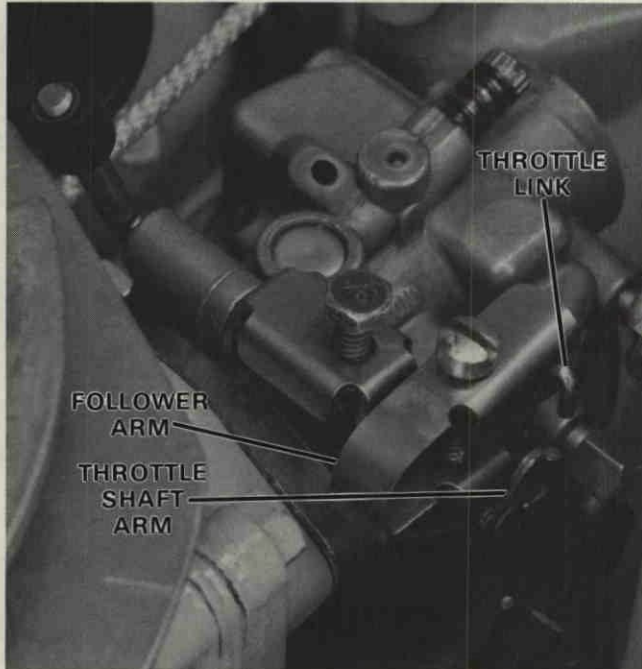

Figure 32. Installing Follower Arm to Cam Follower.
C. Install brass throttle link in hole of throttle shaft arm and in outer hole of follower arm and make sure link ends face out. Then slide follower arm onto cam follower. Figure 32.